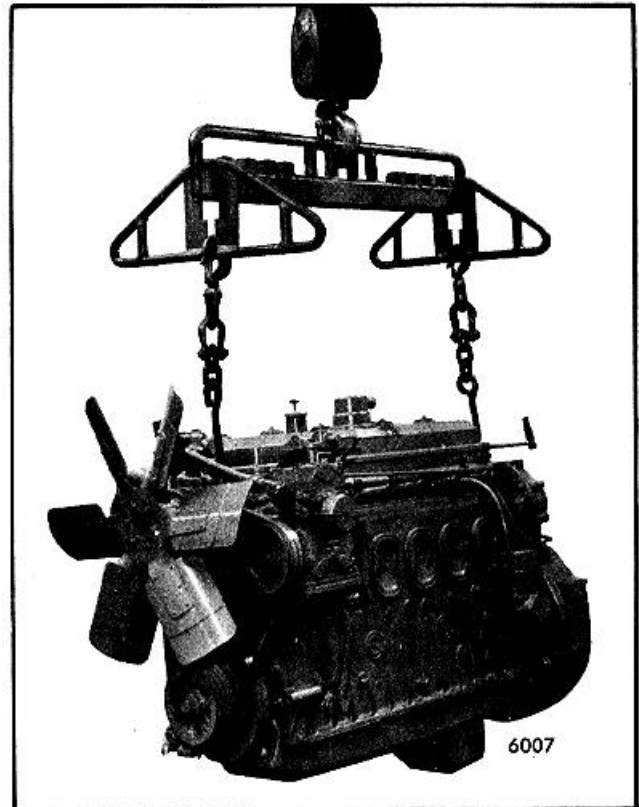

Fig. 6 - Lifting Engine with Spreader and Sling
20. Attach a spreader bar with a suitable sling and adequate chain hoist to the front and rear engine lifter brackets. To prevent bending of the engine lifter brackets, the lifting device should be adjusted so the lifting hooks are vertical. (Fig. 6).